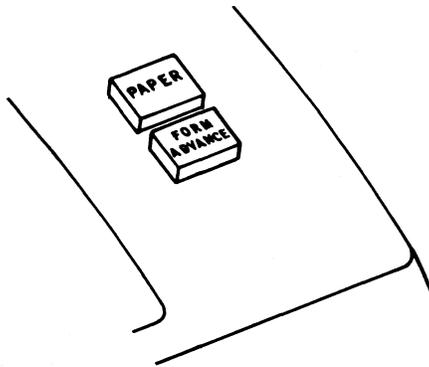
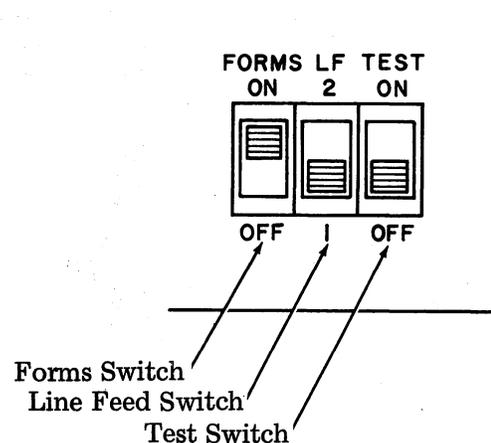

Fig. 6—Paper/Forms Advance Keys on Cabinet
Fig. 7—Switches On Printer Cover
2.02 Local forms advance key may be provided on the cabinet (Fig. 6). If the form switch (Fig. 7) on the printer cover is set to OFF, and the form advance key operated, paper feeds out as long as the key is operated. If the form switch on the cover is set to ON and the form advance key operated, the form will feed out and stop at the next form stop. The SSI line must be connected for this key to be operational when a 410640 or 410729 printer logic card is used. When a 410071, 410076 or a 410072 logic card is used, the SSI line need not be connected.
2.03 Local paper advance key may be provided on the cabinet (Fig. 6). If the paper advance key is operated, the paper will feed out as long as the key is operated. The SSI line must be connected for this key to be operational when a 410640 or 410729 printer logic card is used. When a 410071, 410076 or a 410072 logic card is used, the SSI line need not be connected. The paper key will illuminate when a paper out condition is present.
2.04 The line feed (LF) switch (Fig. 7) allows the printer to function, giving one or two line feeds on the new line command. The automatic paper feedout of 16 lines is not affected.
2.05 The test switch (Fig. 7) when operated to the ON position will turn the printer motor on and print the error font symbol ($\begin{smallmatrix} \text{A} \\ \text{B} \end{smallmatrix}$) in every column position (80 or 132) allowed by a line feed. The right hand printer margin Option 17 is overridden when a 410640 or 410729 printer logic is used. When the printer is
2.06 The forms switch (Fig. 7) (tractor feed only) when in the ON position, enables the form out mechanism to operate on receipt of a form feed signal. When the forms switch is in the OFF position, receipt of a form feed signal results in a new line. If the option switches are set for paper feed out and for paper feed out on receipt of ETX, and the forms switch is in the ON position, the form out mechanism will also operate if the printer is taken out of the RECEIVE MESSAGE STATE or upon receipt of ETX.